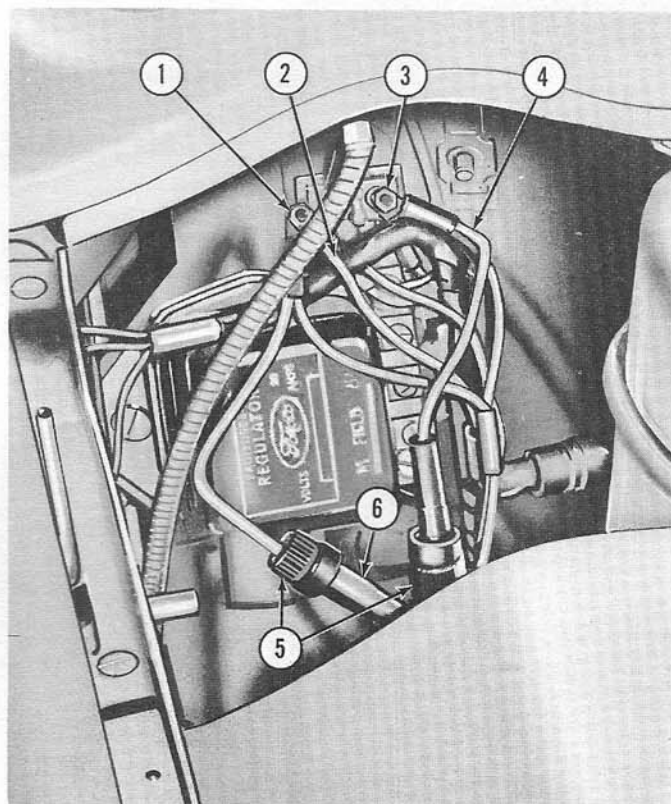

Figure 28
1. Disconnect the double red and white wire from terminal (3), Figure 28. Connect one of the mower harness leads to terminal (3).
2. Connect the double red and white wire that was disconnected from terminal (3), to the other mower harness lead with the nut and bolt that was furnished.
3. Connect plugs (5), to receptacles (6).
terminal (3), Figure 28.
3. Connect plugs (5) to receptacles (6).